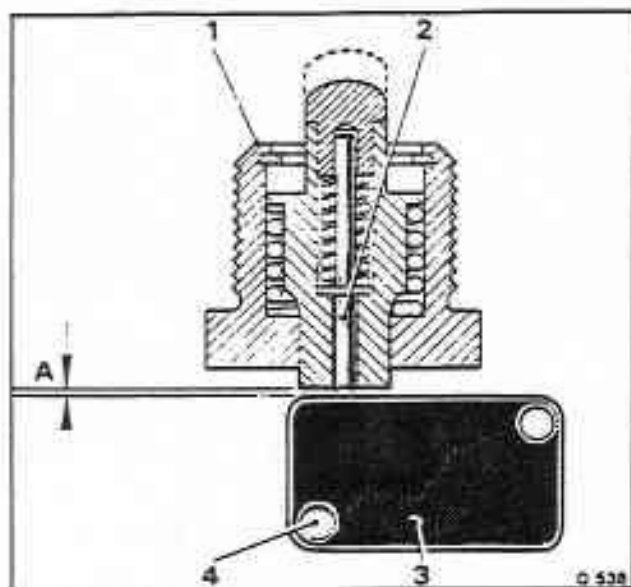

Fig. K7-4 Kick-down micro-switch assembly
4. Ensure that with the main plunger fully depressed it is still clear of the micro-switch case (see fig. K7-4).